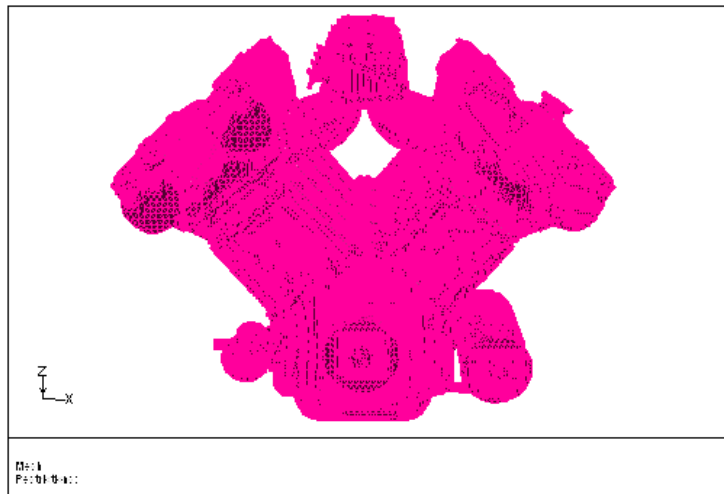

Figure 7.22: Wrapper Surface
4. Display the wrapper surface (Figure 7.22).
*You may need to click Reset in the Bounds tab of the Display Grid panel and manipulate the display in the graphics window to obtain the view shown in Figure 7.22.*